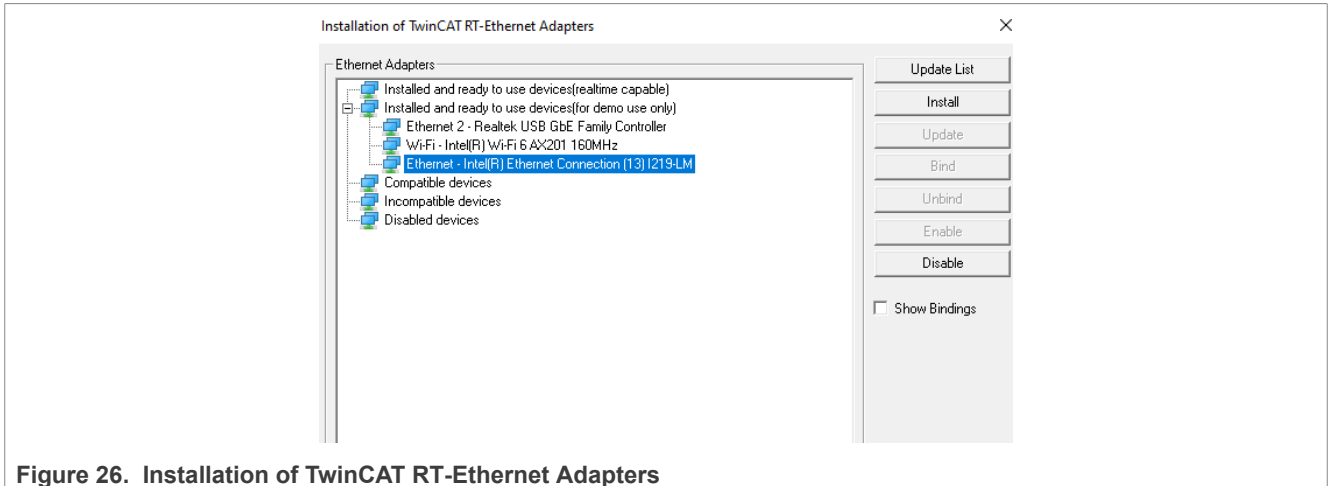

Figure 26. Installation of TwinCAT RT-Ethernet Adapters
4. Make sure that the EtherCAT master device driver is installed on your system. This demo uses the PC as master and Intel (13)1219-LM as the PC network controller as shown in Figure 26. If the PC is used as